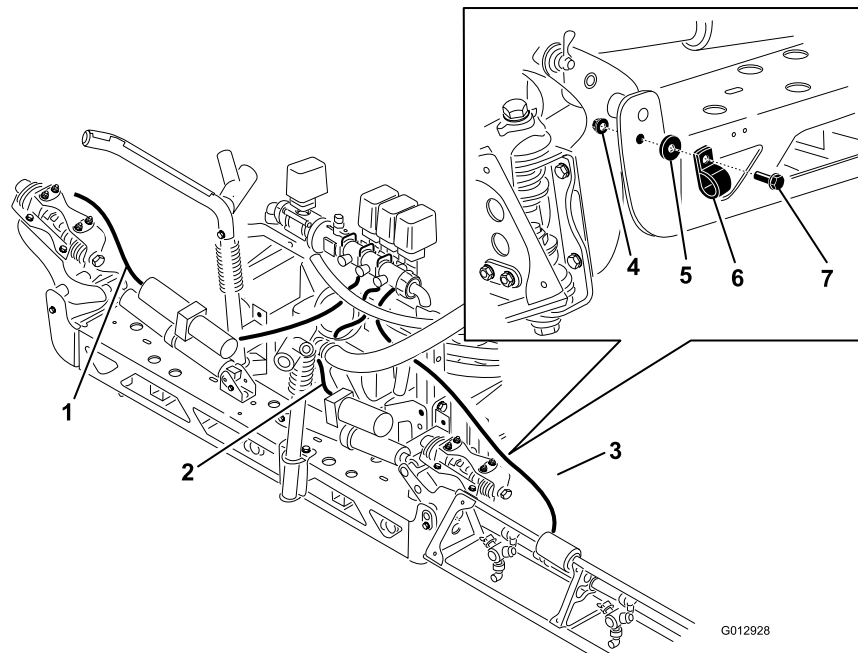

Figure 31
1. Route the boom hoses as shown in Figure 31.
2. Use the R-clamps to secure the right and left boom hoses to the front side of the center boom assemblies. Secure the hoses and R-clamps with a shoulder bolt, a washer and a nut as shown in Figure 31.